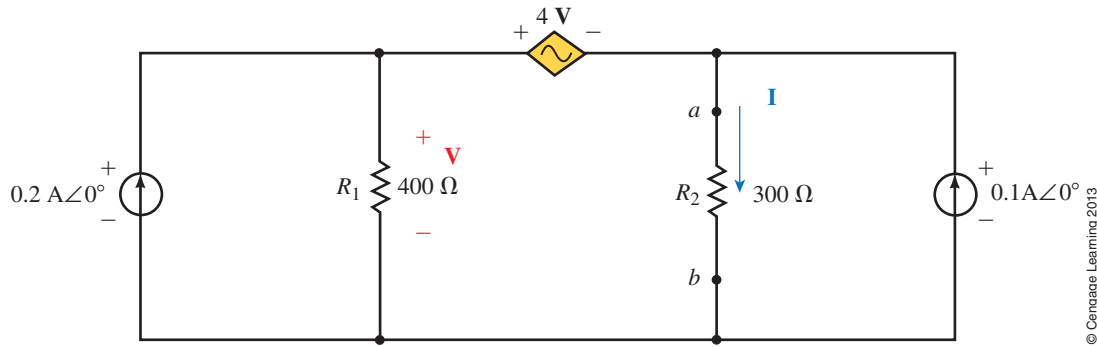

FIGURE 20–79
18. Determine the current $\mathbf{I}$ for the circuit of Figure 20–79.
19. Find the Thévenin equivalent circuit external to the load impedance of Figure 20–68.